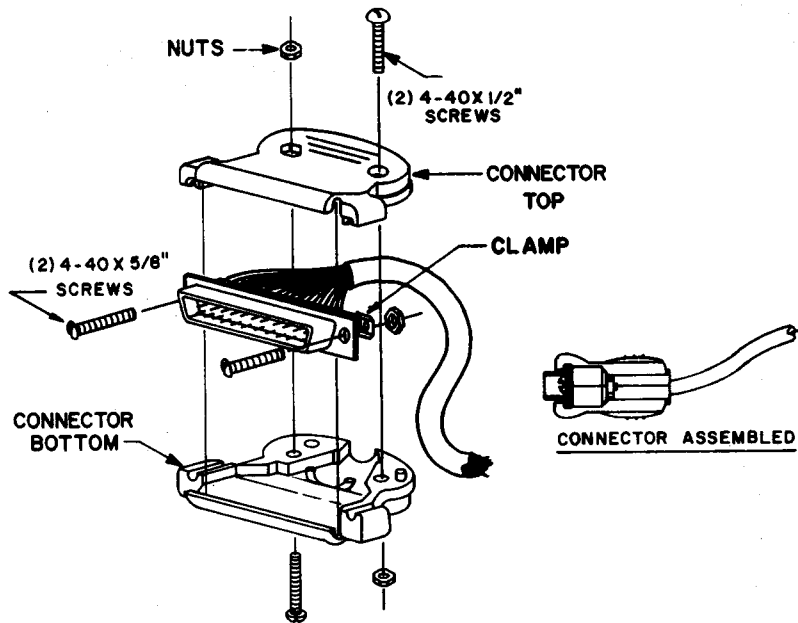

Figure 3-19. Connector Cover Installation
2. Obtain the Connector Cover from Bag 4 and set the conductor cable and connector inside one half of the cover (Figure 3-19). Insure that the cable runs between the two posts in the center of the cover and that no wires will be pinched along any of the edges.